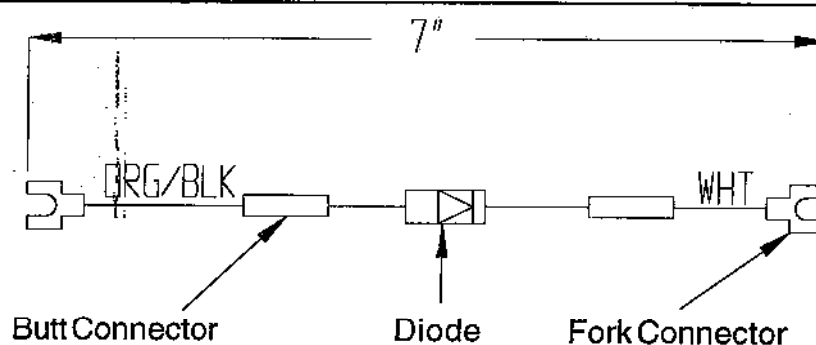

Figure 4
8. Assemble the Diode Assembly shown in Figure 4 using supplied parts. Insulate Diode leads with sleaving. The total length of Diode Assembly should be 7 inches.